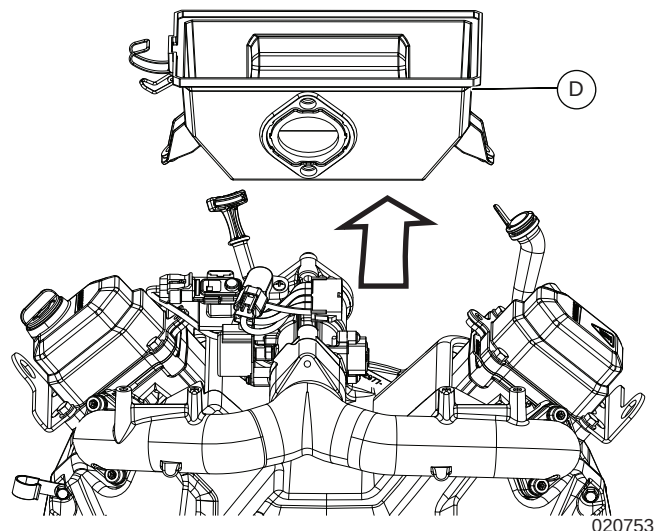

Figure 6-10. Remove Air Box Base From Engine
6. See Figure 6-10. Lift air box base (D) assembly from engine.